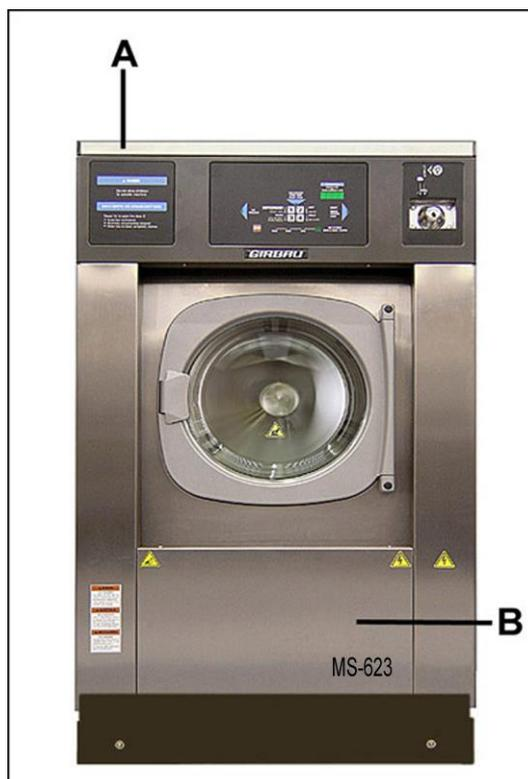

Fig. 3.14
1. Remove the machine's top cover **A** and bottom front cover **B** (Fig. 3.14).